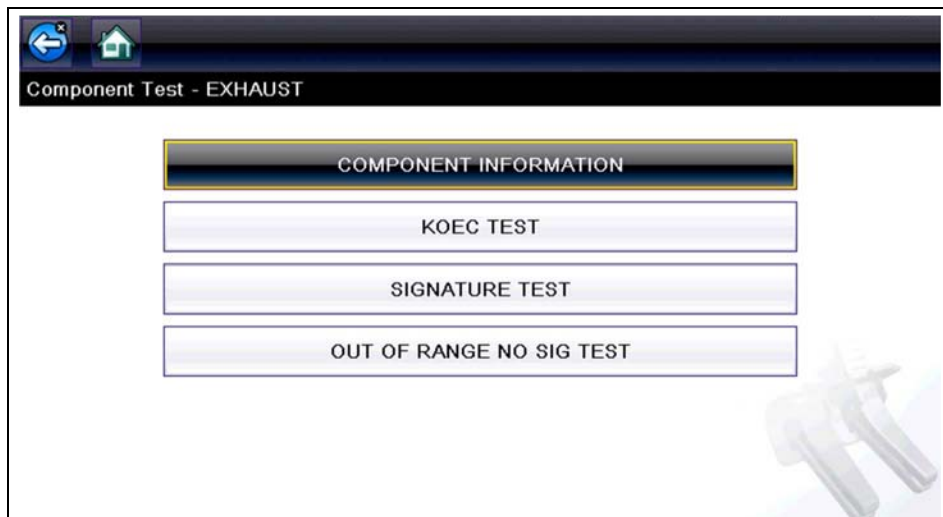

Figure 8-5 Component Tests Menu
2. Select **Component Information** from the Component Test menu (Figure 8-5).